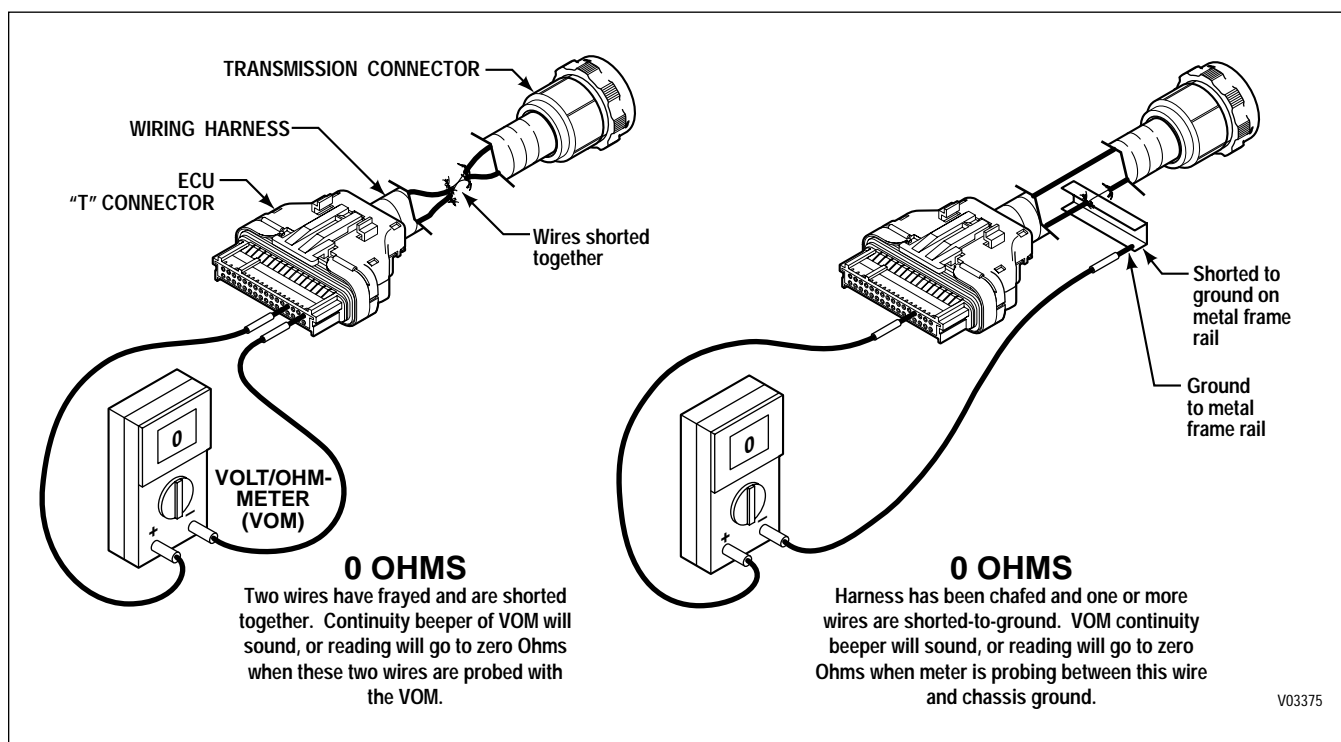

Figure 4–2. Short Between Wires and to Ground
- (2) On the opposite end of the harness, check the continuity of the jumpered pair. No continuity in a jumpered pair circuit (infinite resistance reading) indicates an open in the wire being tested. Locate and repair the damaged portion of the wire.
- b. If the continuity check is good (0–2 Ohms resistance), remove the jumpers. Check the harness for shorts between wires and shorts-to-ground by performing the following (refer to Figure 4–2):
- (1) At the ECU end of the harness, touch one VOM probe to one wire of the circuit being tested and touch the other probe to each terminal in the same connector, then touch the probe to chassis ground and to the transmission main housing. Do this for both wires in the circuit being tested.
- (2) If at any time the VOM shows zero to low resistance, or the meter's continuity beeper sounds, there is a short between the two points being probed — wire-to-wire or wire-to-ground. Isolate and repair the short.